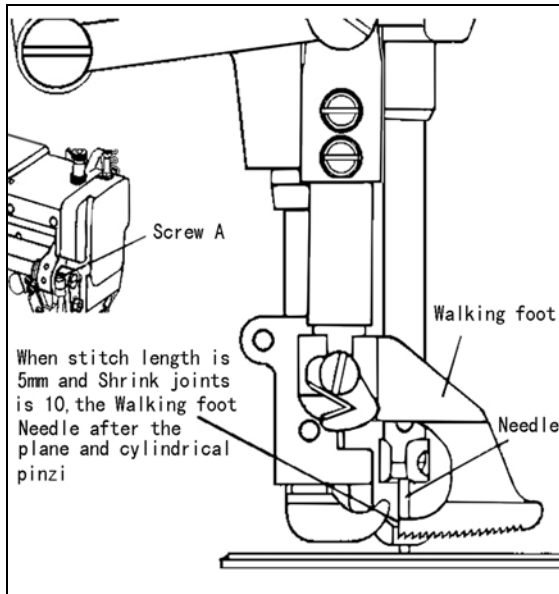

Fig. 43
37、Adjustment of front back positions for presser foot (Fig.43)
2) Release the bolt A, put the foot after the external pressure placed on the plane with machine needle cylindrical Pinzi position (as shown in Figure 43), tighten the screw A